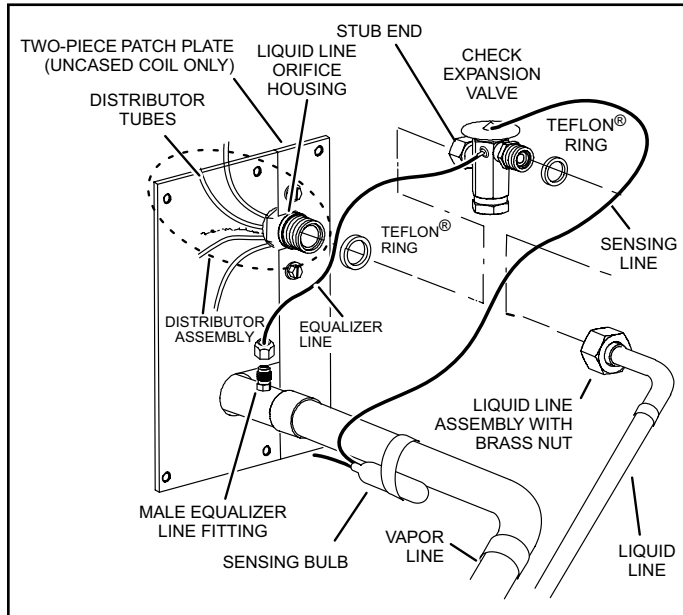

Figure 3. Remove Existing Expansion Valve (uncased coil shown)
7. Remove and discard check expansion valve and the two Teflon® rings (see Figure 3).